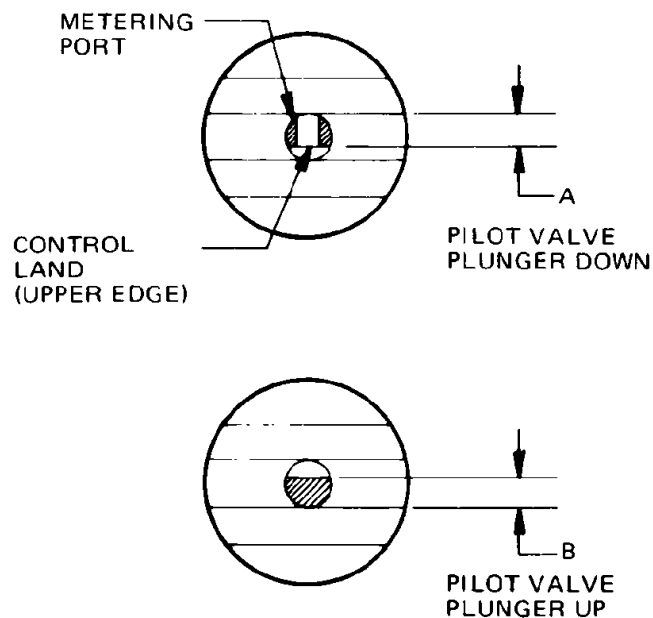

Figure 4-3. Centering Pilot Valve Plunger
6. Assemble spring seat (304) and nut (303) on pilot valve plunger (305). Do not tighten the nut.
7. Install thrust bearing (302) and plunger in the case.
9. Using a flashlight, observe the position of the upper edge of the control land on the plunger with respect to the metering port in the pilot valve bushing and note the amount of port opening (see Figure 4-3, A).
10. Hold the plunger in contact with the toes of the ballarms while pushing the ballarms to their outermost position. Observe the position of the lower edge of the plunger control land with respect to the metering port and again note the amount of port opening (see Figure 4-3, B).